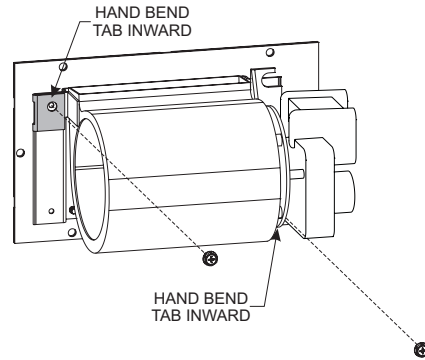

Figure 11
6. Bend tab as shown in (**Figure 11**) and secure with (2) screws.